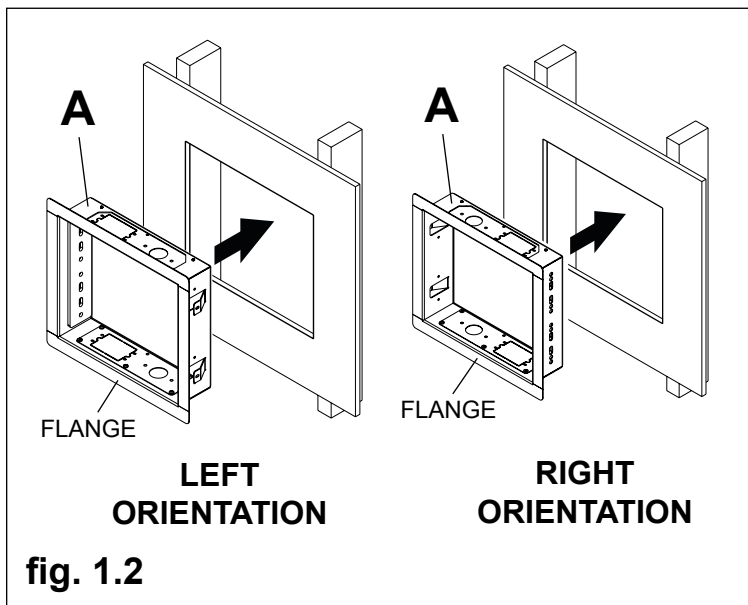

fig. 1.2
NOTE: In-wall box (A) can be installed for left or right side mount orientation as shown in figure 1.2.